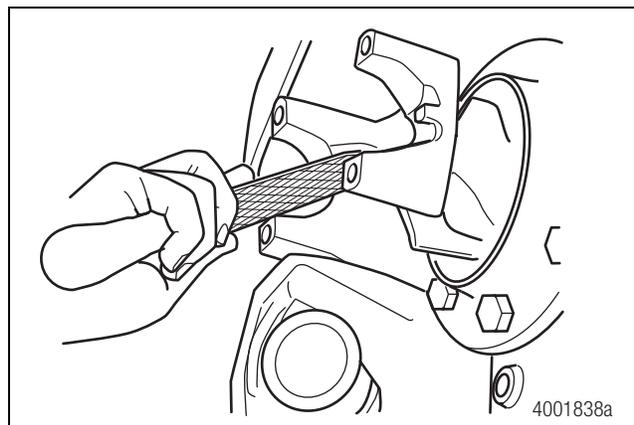

Figure 3.3
4. Inspect all end yoke or flange cross hole surfaces and bolt hole threads for damage. Remove raised metal or fretting with a fine-tooth file or emery cloth. Figure 3.3.